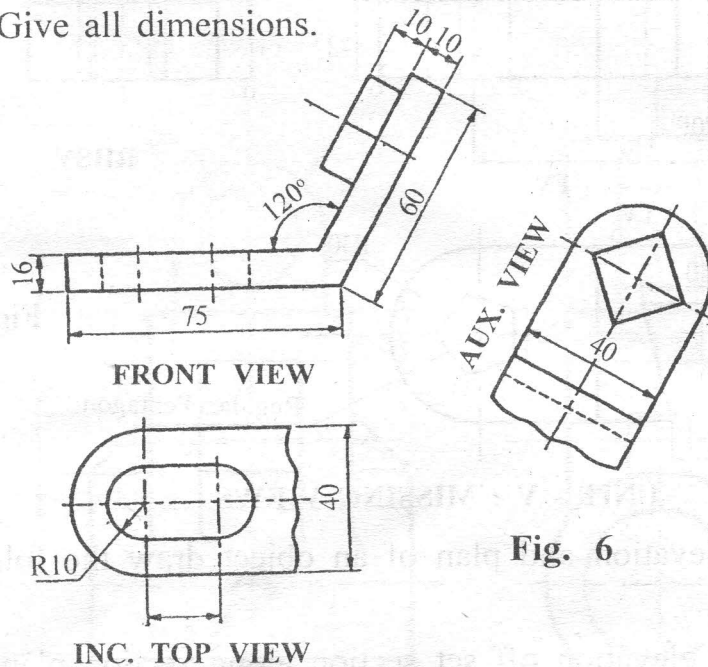

Fig. 6
Q.6) Fig. 6 shows front view, incomplete top view and partial auxiliary view of an angle bracket :